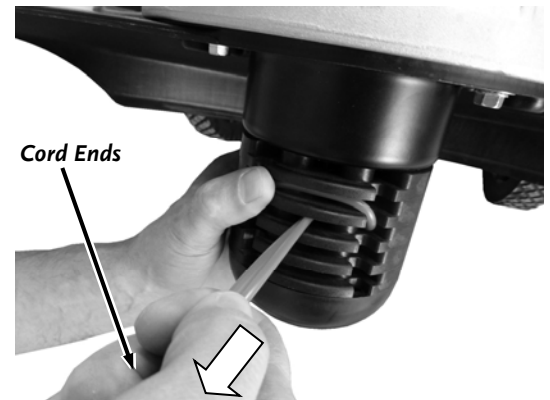

Figure 6
3. Pull the Cords under the loop and push the loop up into the Line Plate groove above them (**Figure 6**) and then pull the Cords tight.